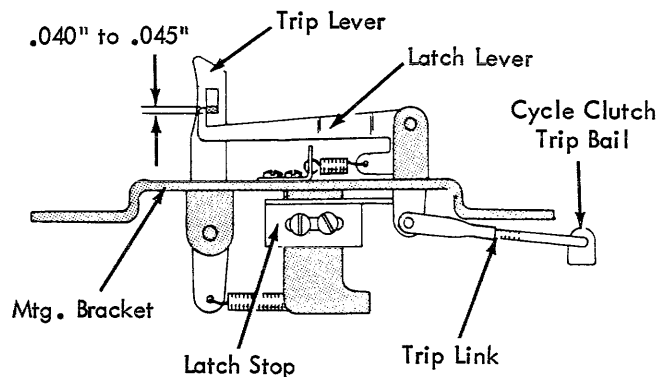
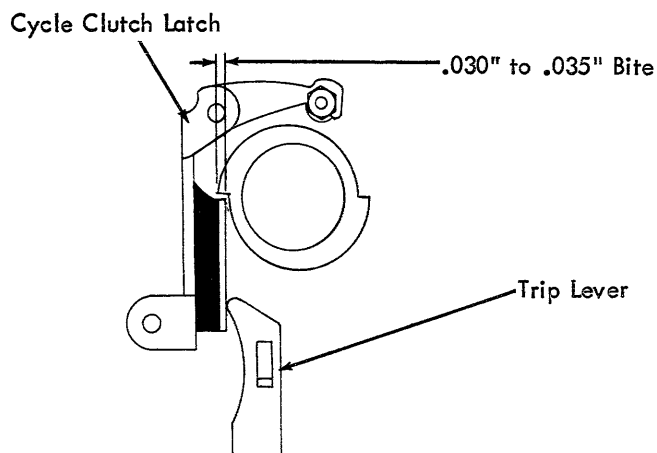
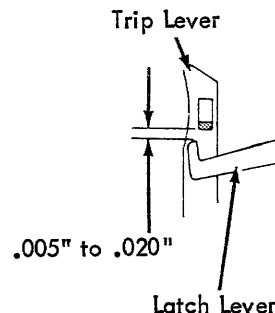

FIGURE 18. Latch Lever
FIGURE 19. Mounting Bracket Positions
FIGURE 20. Trip Link Adjustment
- a. Disconnect the trip link (Fig. 18).
1. Latch Stop (Fig. 18) - Position so that the latch lever overlaps the trip lever lug by .040" to .045"
2. Mounting Bracket (Fig. 18) - Position front to rear so that the cycle clutch latch has a .030" to .035" bite on the sleeve (Fig. 19).
3. Trip Link Clevis (Fig. 18) - With either the T2 or R5 armature manually attracted, adjust the clevis so that the latch lever clears the trip lever lug by .005" to .020" (Fig. 20).